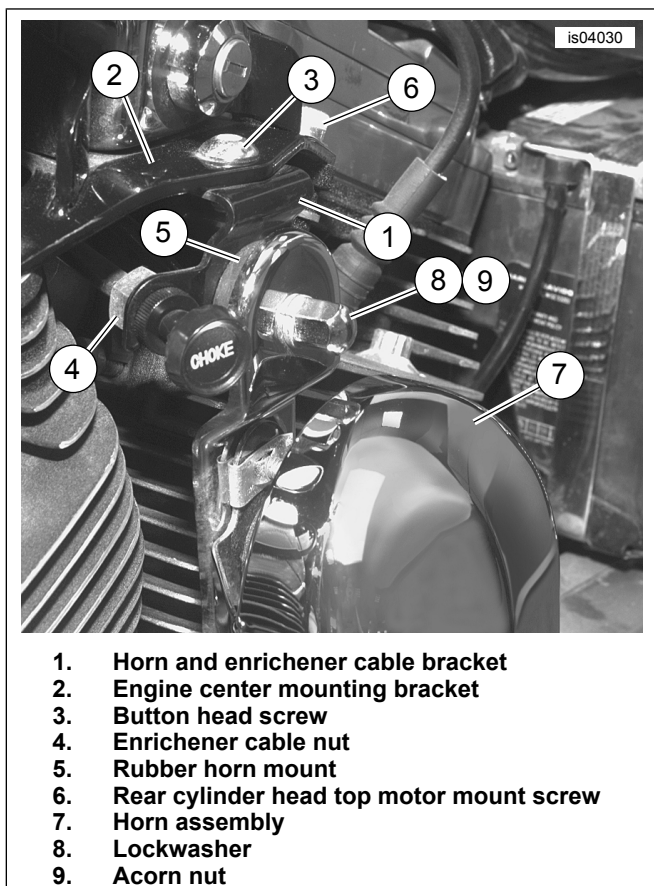

Figure 4. Horn Assembly Installation, 1992-1994 Models
9. See Figure 4. Install the **new** horn and enricher cable bracket (1) to the engine center mounting bracket (2) using the new screw (3). Tighten the screw to 6.8–13.6 N·m (60–120 in-lbs).